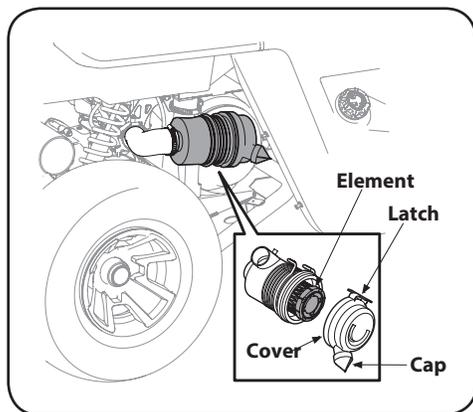

Figure 6-1
1. Pull up on latch and turn counter-clockwise to release air cleaner cover. See Figure 6-1.
IMPORTANT: When reattaching cover, make certain that the cap is pointing downward. See Figure 6-1 inset.